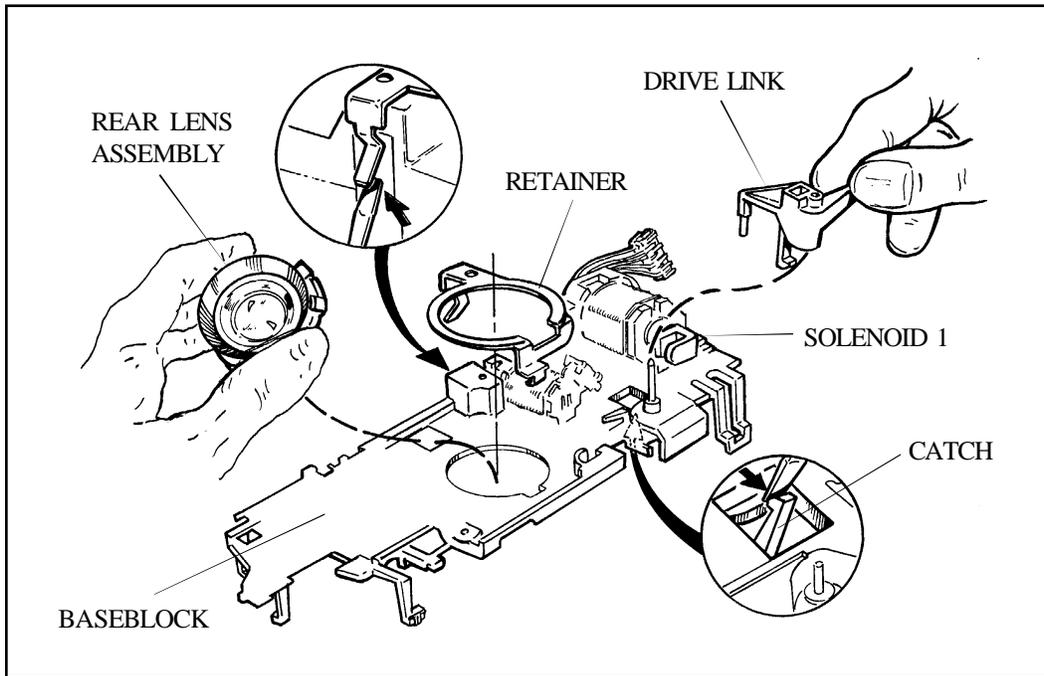

Figure 3-42. Removing Drive Link and Rear Lens Assembly from Baseblock
- l. To remove the Drive Link, use a greenstick or narrow screwdriver and work from the rear of the Baseblock: lift the catch finger on the Drive Link and remove it from the front (Figure 3-42). Keep Link from being caught under end of Solenoid 1 coil winding. Solenoid 1 plunger will drop out — don't lose it.
- m. Using greenstick or small screwdriver, release the top spring tab of the Rear Lens Assembly Retainer and remove it and the Rear Lens Assembly (Figure 3-42).